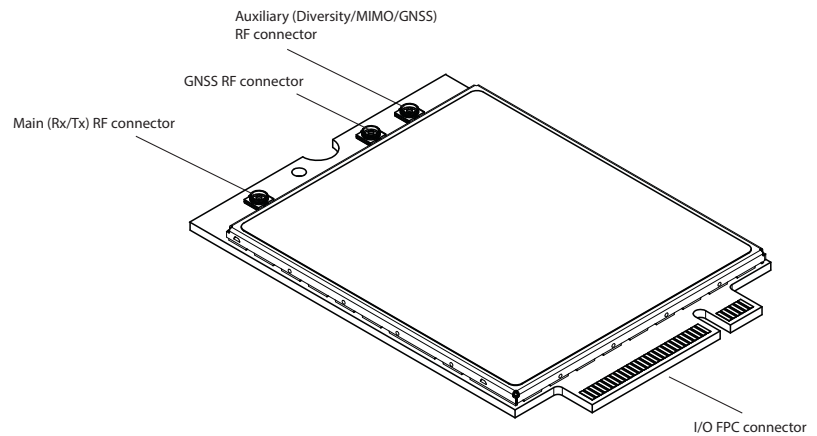

Figure 4-1: Module Connectors
- Connect to system ground using the mounting hole shown in Figure 4-1 on page 41.